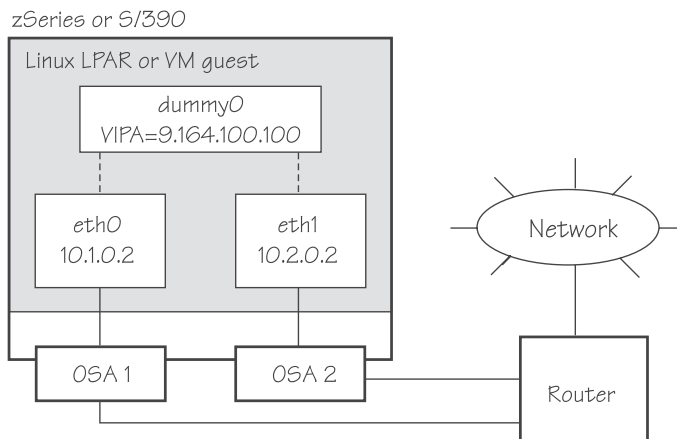

Figure 16. Example of using Virtual IP Address (VIPA)
- Static routing (shown in the example of Figure 16 on page 238).
Figure 16 shows the network adapter configuration used in the example.